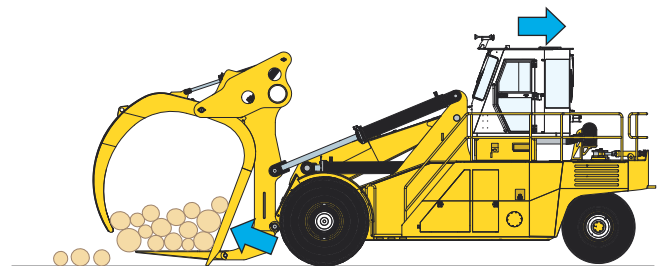

Figure 4-7-2 Spreading
2. While backing the machine, slowly open the holddown arms and gradually push the load forward with the kickoff arms. This way, the logs can be dropped one at a time rather than all at once (See Figure 4-7-2).